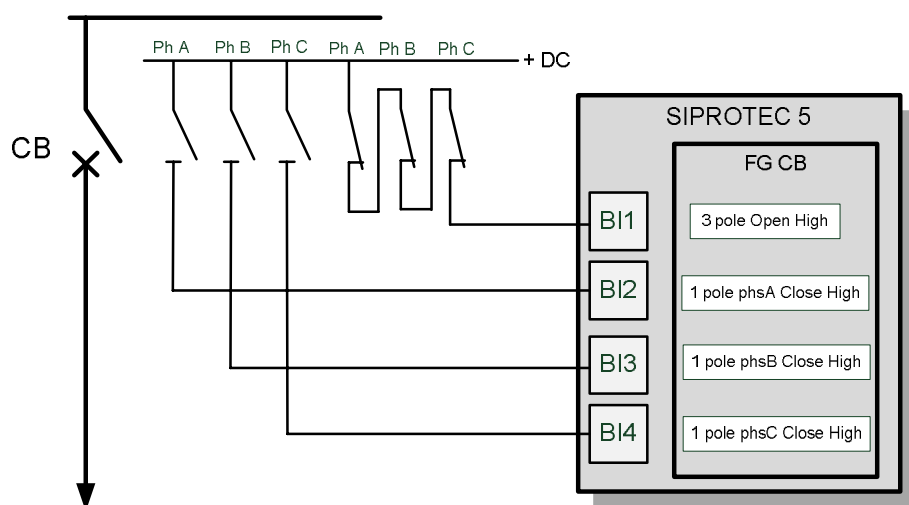

Figure 2: Connection of auxiliary contacts – with phase selective Close High status
With the routing shown in Figure 1 above, the circuit breaker auxiliary contacts can, with good reliability, indicate both the open and closed state of the circuit breaker. For this example the external connection shown in Figure 2 below is required. For the application of the pole discrepancy function as described in this document, the 3 phase selective auxiliary contact signals, Position 1-pole phsX, must be applied in the closed high (CH) configuration because the logic will evaluate the phase selective CLOSED-Status. The 3-phase status, for example the Position 3-pole, which is routed as "OH" in Figure 1, is not required and may be left out.
The input to the timer will only be a high state when both the 3 input NOR gate and AND gate have a “zero” at their outputs. This happens when the Closed State is not the same in all three phases. Based on the three inputs used for the phase selective status as shown in Figure 2, this is the pole discrepancy state that will be alarmed when the set time expires.